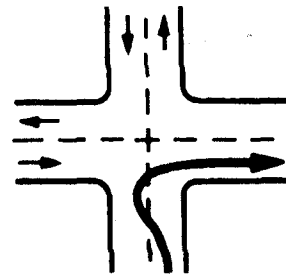

Figure 6-6
5. Why should you not turn like it shows in Figure 6-6?